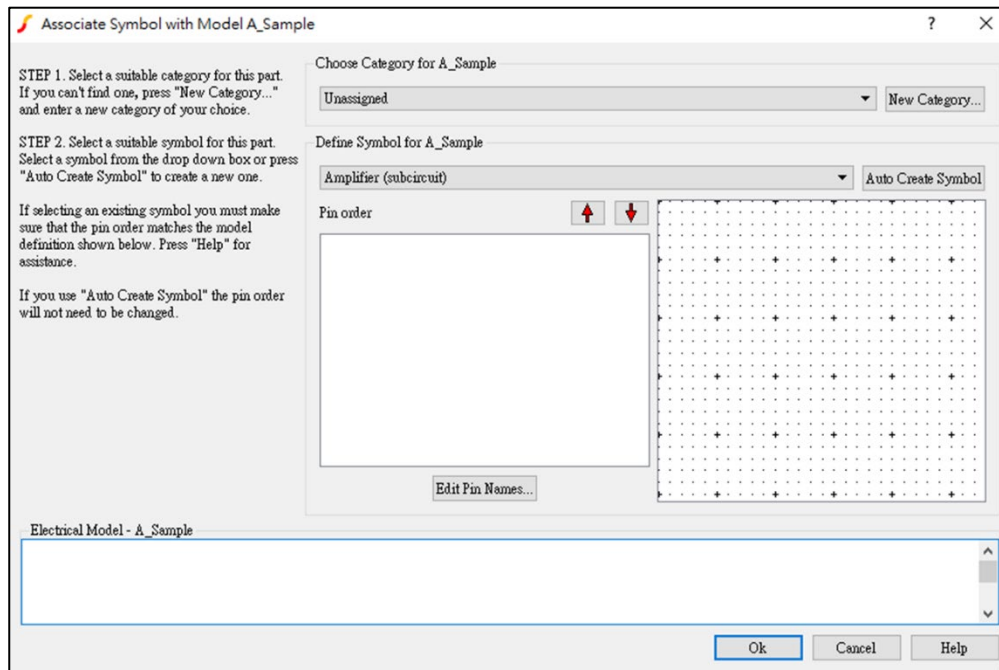

Figure 6
6. If SIMetrix doesn't know what symbol to use for the model, you will see a window as below. (as shown in Figure 6)